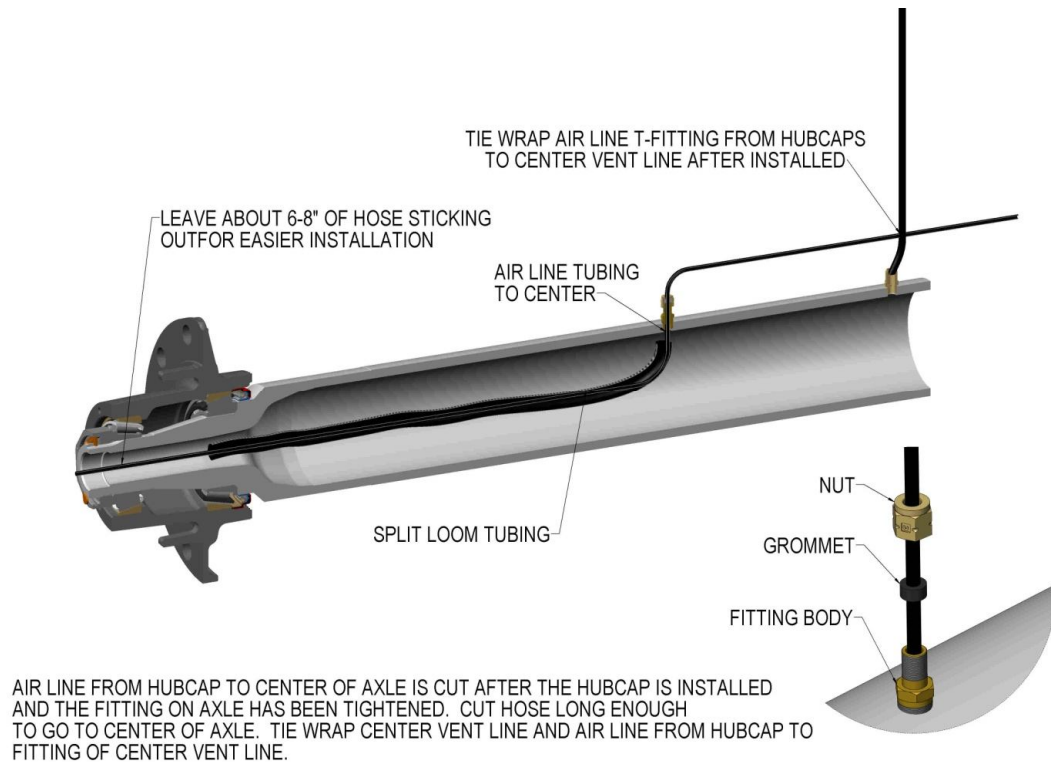

Figure 13
- The air line from the spindle end going to the fitting on the axle fitting can now be cut. Make sure to cut the tubing long enough to reach just past the center of the axle. The air line will be attached to a tee fitting and then tie-wrapped to the center axle vent line. See Figure 13